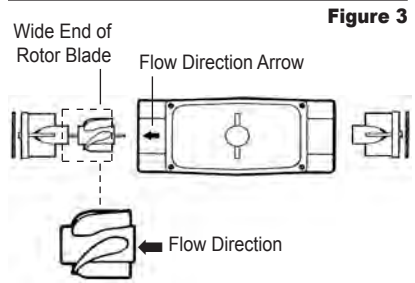

Figure 3
7. Install the rotor. Make sure the wide end of the rotor's blades faces the flow direction. See Figure 3.